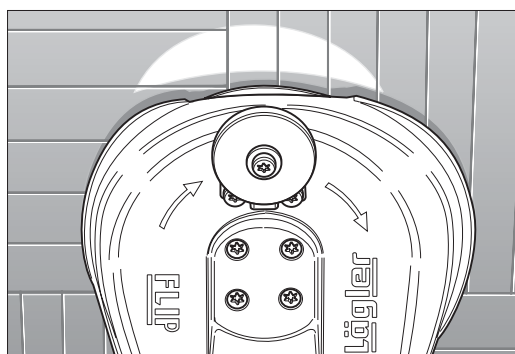

Fig. 46 Correctly adjusted, machine is sanding centrically.
- 5 Perform a trial sanding operation and check the sanding results (Fig. 46 – 50). Should you require a steeper or flatter setting, loosen the locknut again and turn the guide roller one or two turns in the relevant direction and then tighten the locknut again.